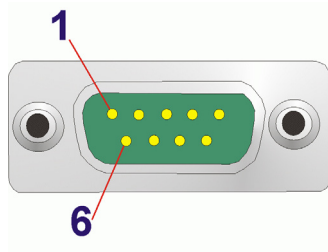

Figure 3-19: DB-9 RS-232/422/485 Serial Port Connector
Step 2: **Align the connectors.** Align the USB device connector with one of the connectors. See **Figure 3-19**.